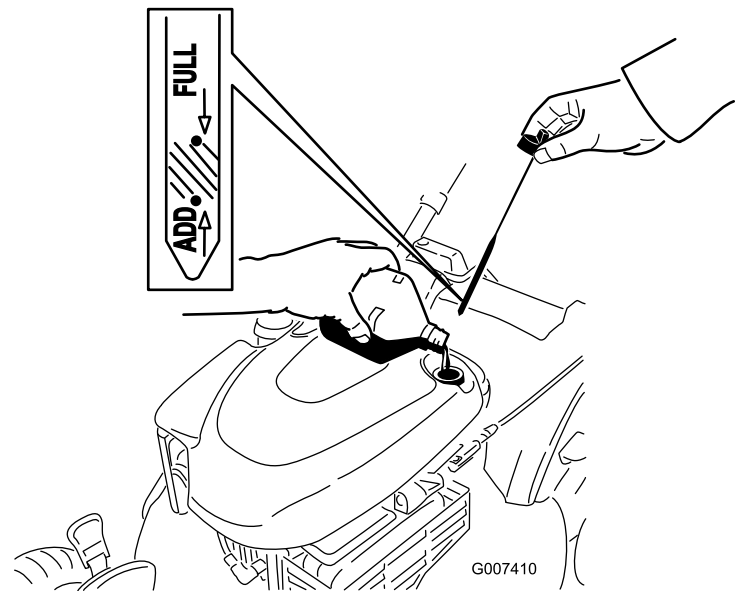

Figure 17
2. Remove the dipstick (Figure 17).
5. Remove the dipstick and read the oil level; refer to Figure 17.